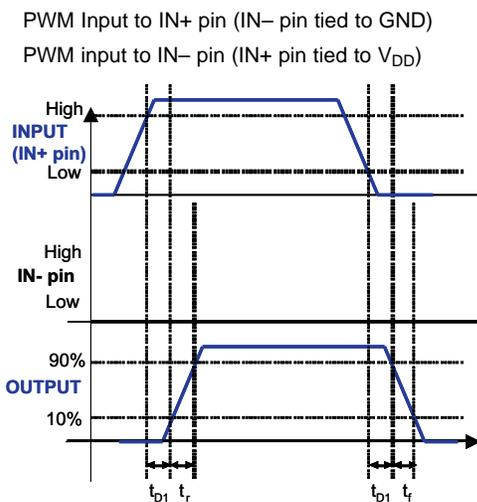
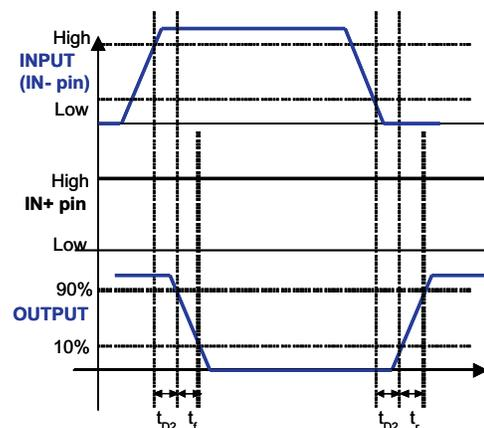
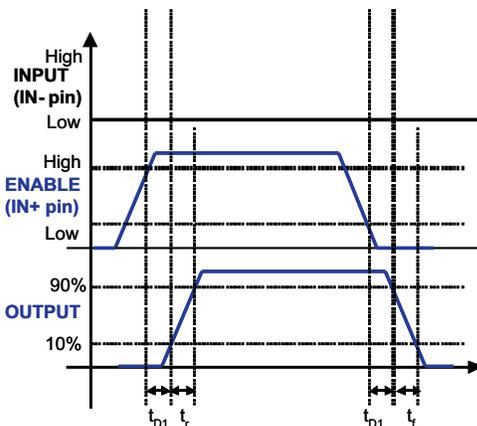

Figure 1. Non-Inverting Configuration
Figure 2. Inverting Configuration
Figure 3. Enable and Disable Function Using IN+ Pin
(1) See timing diagrams in Figure 1, Figure 2, Figure 3 and Figure 4.